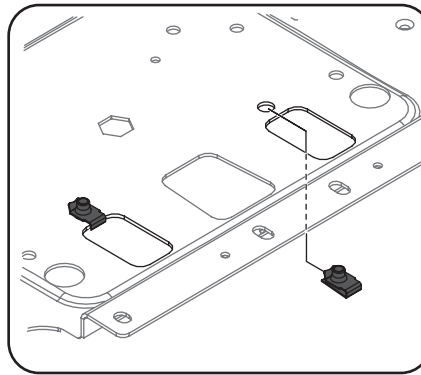

Figure 4-18
2. Slide 2 clip nuts (726-0211) into the mounting holes on the underside of the tractor frame. See Figure 4-18.